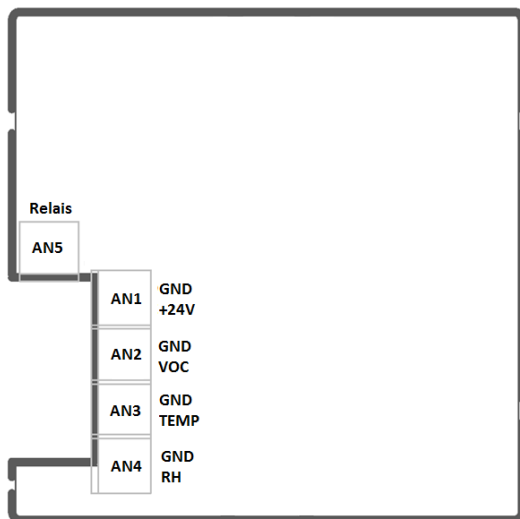

Figure 2 - Pin assignment
8. Using a small Phillips screwdriver, connect the power supply, along with any relay output and the voltage signal output(s). See pin assignment, figure 2. The connection wires can be fed out from the housing directly beneath the compression fittings.
Avoid static charges and contact with electrical contacts. Electrostatic discharges can damage the device or sensor! Ensure that no electrical voltage is applied on the wires. Connect the power supply (14 - 27 V DC) to the screw terminal AN1. See pin assignment, figure 2.